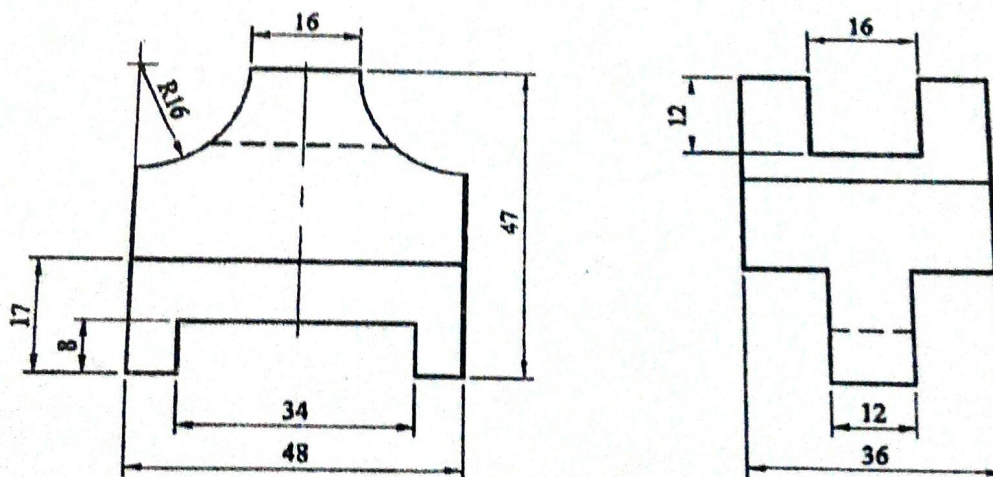

Figure 1
1. Draw an isometric view from the given orthographic views as shown in figure 1.